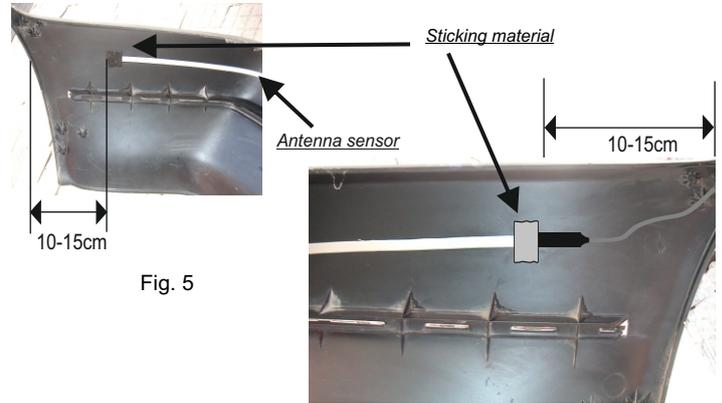

Fig. 5
**B-** Fix through its adhesive the black connection module of the data cable on the inner surface of the bumper, starting from approximately 10-15 cm away from the end of the bumper (fig. 5).
1) It is important to start and finish the application of the tape to about 10-15 cm from both ends of the bumper (fig.5).